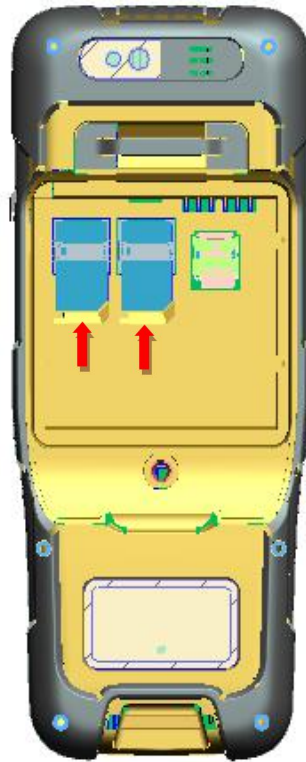

Figure 6.7 Put the SIM card in the holder
3. **Put the SIM Card in the holder:** Put the SIM card into the slot touching the SIM contacts of the phone as shown in Figure 6.7.